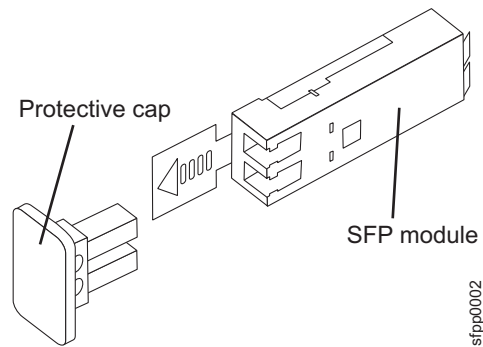
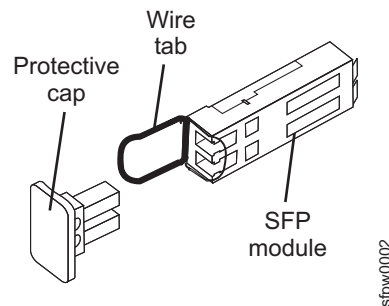

Figure 13. Removing the protective cap from a plastic tab type SFP
Figure 14. Removing the protective cap from a wire bale type SFP
3. Remove the protective cap from the SFP module, as shown in Figure 13 and Figure 14. Save the cap for future use.